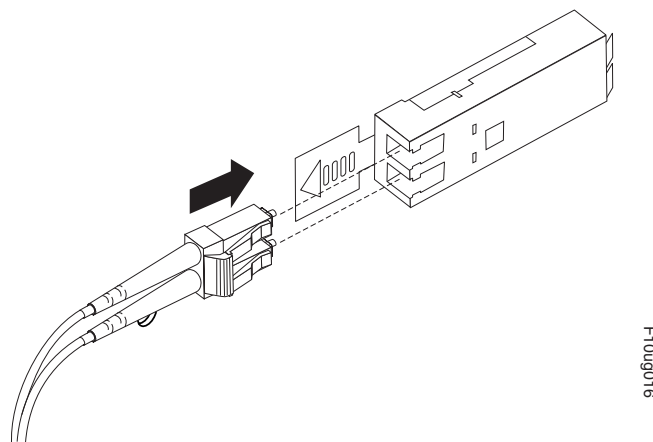

Figure 34. Inserting an LC-LC fibre-channel cable into an SFP module
4. Carefully insert this end of the LC-LC cable into an SFP module that is installed in the DS4800. The cable connector is keyed to ensure it is inserted into the SFP module correctly. Holding the connector, push in the cable until it clicks into place, as shown in Figure 34.